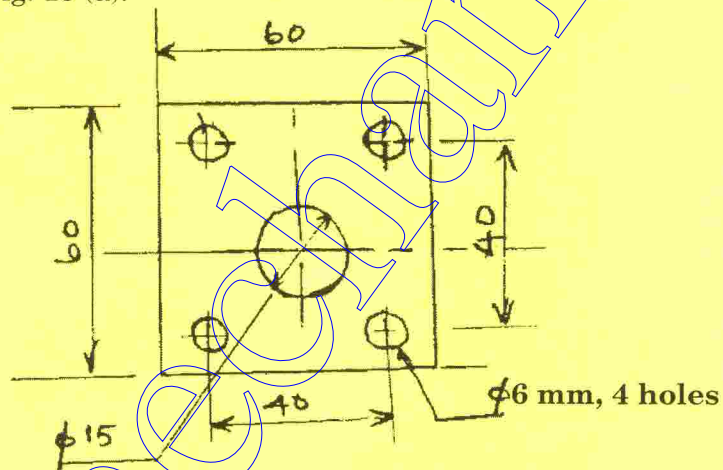

Fig. 15 (a)
15. (a) Design and draw the front view of a combination die for the component shown in Fig. 15 (a).